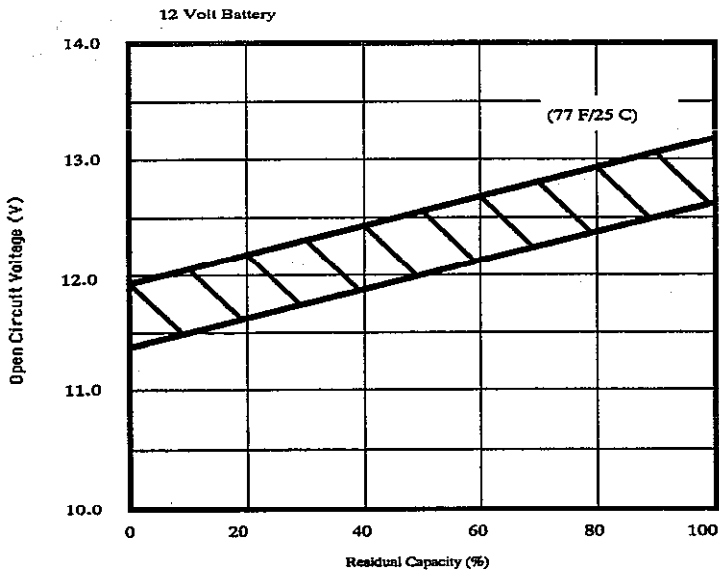

Figure 2
3.5.2 If the last charge date is not known the voltage of the battery can be used as a rough estimate of the service time available in the battery after storage. Figure 2 provides the approximate capacity retention expected of each 12 volt section (pins 1,4 for one section; pins 2,5 for the other section) based on the open circuit voltage.